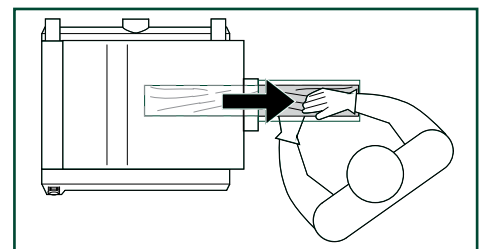

FIG. 44
2. To remove the work piece from the machine, position yourself offset to one side of the outfeed opening. FIG. 44. Do not pull the lumber as it exits the machine. Let the outfeed roller move the work piece out of the planer at its own rate, but support the lumber as it extends past the extension rollers, if needed.